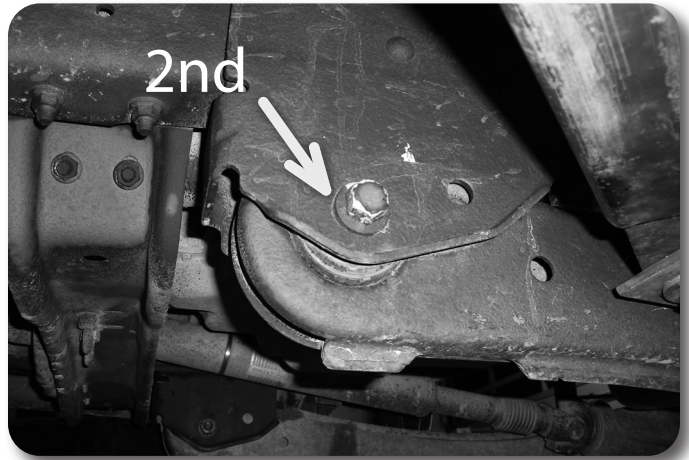

Figure 16
34. Starting with the passenger's side, 1st remove the upper radius arm mounting bolt at the axle. 2nd, remove the radius arm bolt at the frame and lower the radius arm from the frame bracket. 3rd, remove the lower mounting bolt at the axle and remove the radius arm from the vehicle. **Figure 16** Save hardware.